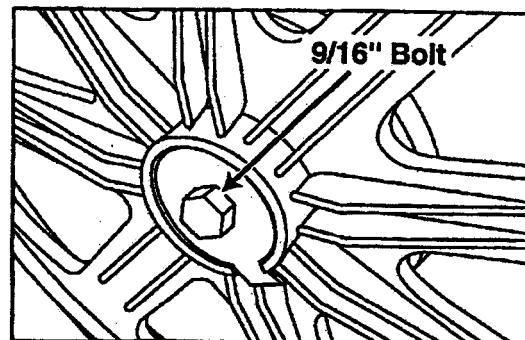

Figure 2-42
- Remove the bolt and the spider shaft will be exposed. Carefully slide the pulley off the spider shaft, using a "rocking/side-to-side" motion. If the pulley has a snug fit, use your Spanner Wrench to apply enough leverage to pry the pulley off the shaft (**Figure 2-42**).